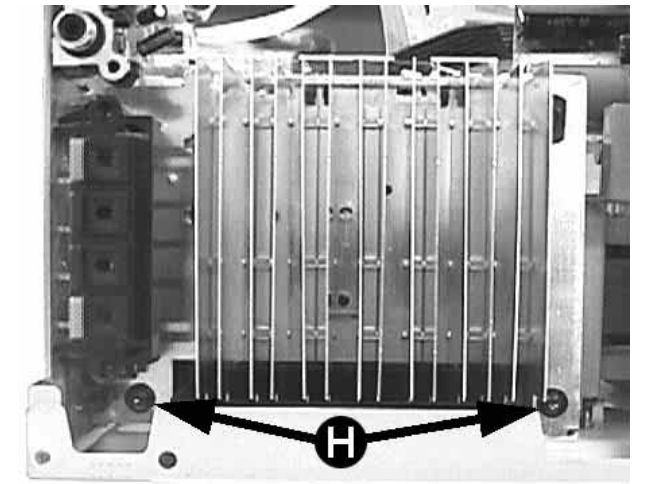

Figure 9
- 1) Loosen 2 screws H as shown in figure 9 to remove the Combi / Regulator boards assembly.